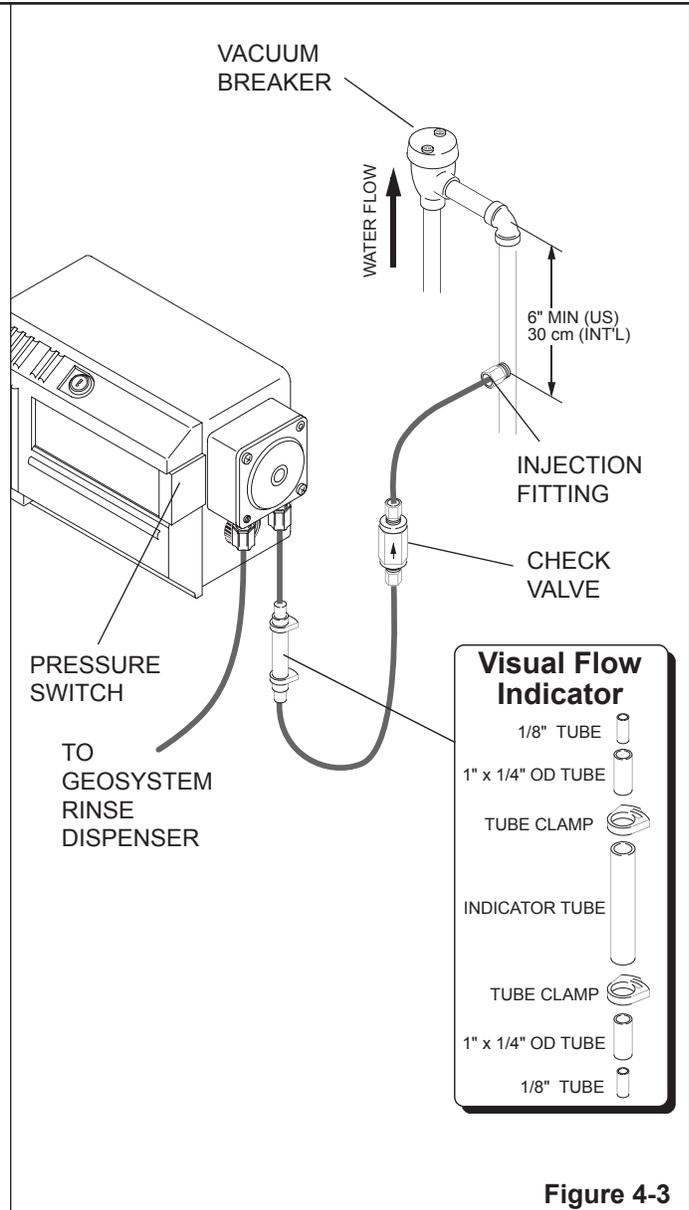

Figure 4-3
Identify the point at which rinse additive will be injected into the final rinse line, refer to Figure 4-3.
1. Connect 1/8" product discharge tubing between the outlet of the pump squeeze tube and visual flow indicator, refer to Figure 4-3.
5. Complete the outlet of the Visual Flow Indicator in the same manner and extend the 1/8 tubing to the check valve and injection fitting. Refer to Figure 4-3.